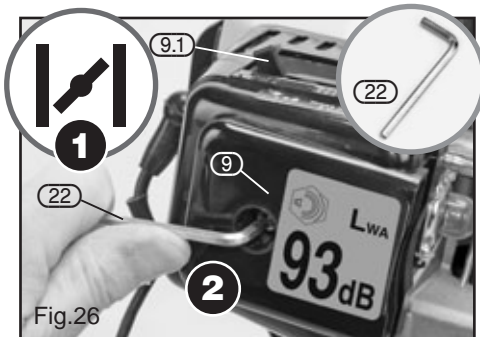

Fig. 26
10.1 CLEANING THE AIR FILTER – FIGS. 26 – 29